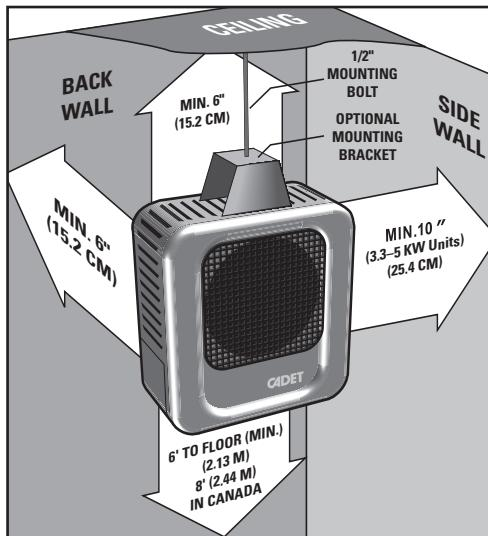

Figure 2. Horizontal mounting clearances with optional bracket (CEK-M1).
A minimum clearance for each heater (both horizontal and vertical mount) is listed in Figure 2. Please follow these recommendations to avoid potential problems with the function and safety of the heater.
(See Figure 2 for minimum clearances)
2. Mounting with optional bolt-on ceiling brackets: (Figure 2)
NOTE: When mounting for vertical discharge, position unit so that access door opens away from nearest wall. This permits maximum access to wiring compartment (Figures 2 & 6).